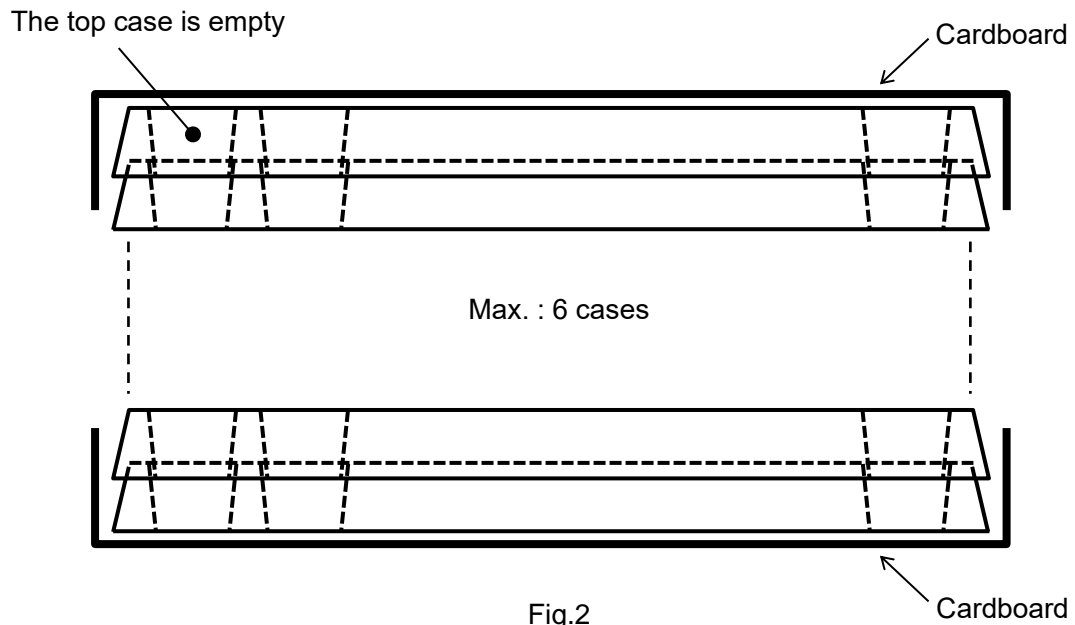

Fig.2
- (1) Put PD3 (Max. : 100 pcs.) in the packing case.
- (2) Pile up 6 cases (the top case is empty), cover top and bottom with the cardboard and fix 2 places with rubber bands. (Refer to Fig.2)